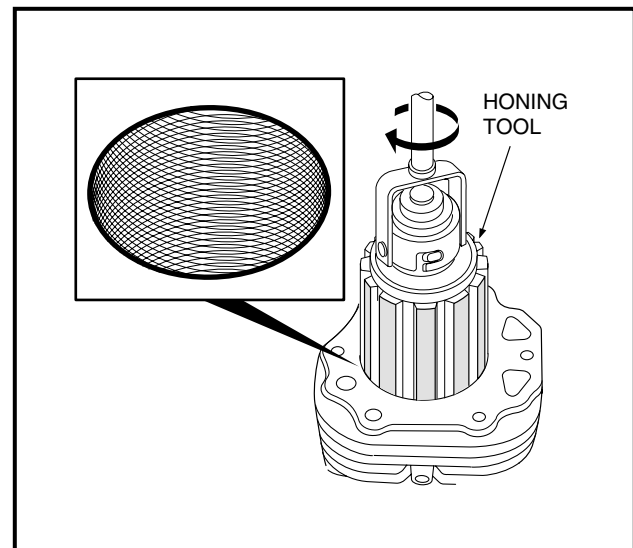

Figure 13-61 Hone Cylinder
**NOTE:** Important: The cylinder wall finish should have a 40° to 60° cross-hatch pattern (**Figure 13-61, Page 13-30**).